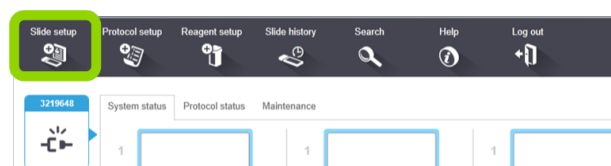

Figure 77: Slide setup icon
1. Click the **Slide setup** icon (see Figure 77).